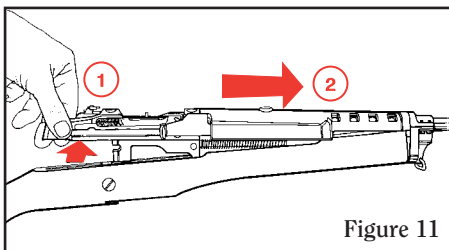

Figure 11
5. Remove barrel/receiver assembly from stock by swinging rear end away from action slightly, then pull stock out of engagement with gas block (See Fig. 11).